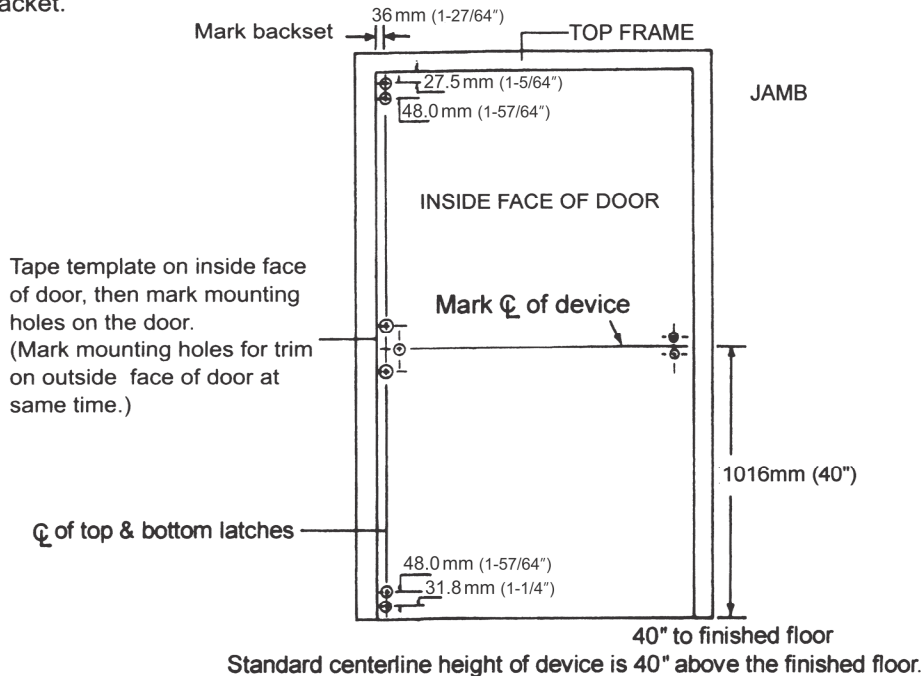

Figure 1
1. Mark position of holes on the door with templates. (See Figure 1.)